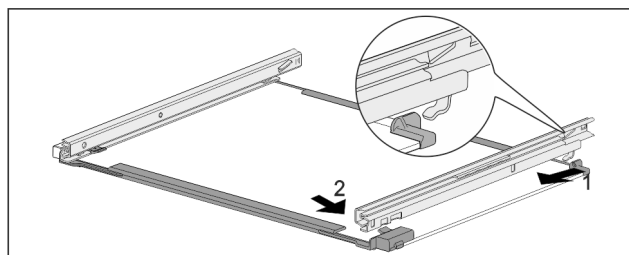

Fig. 165 Glass shelf with rails
- ▶ Hook in rail at the back. *Fig. 165 (1)*
- ▶ Hook in rail at the front. *Fig. 165 (2)*